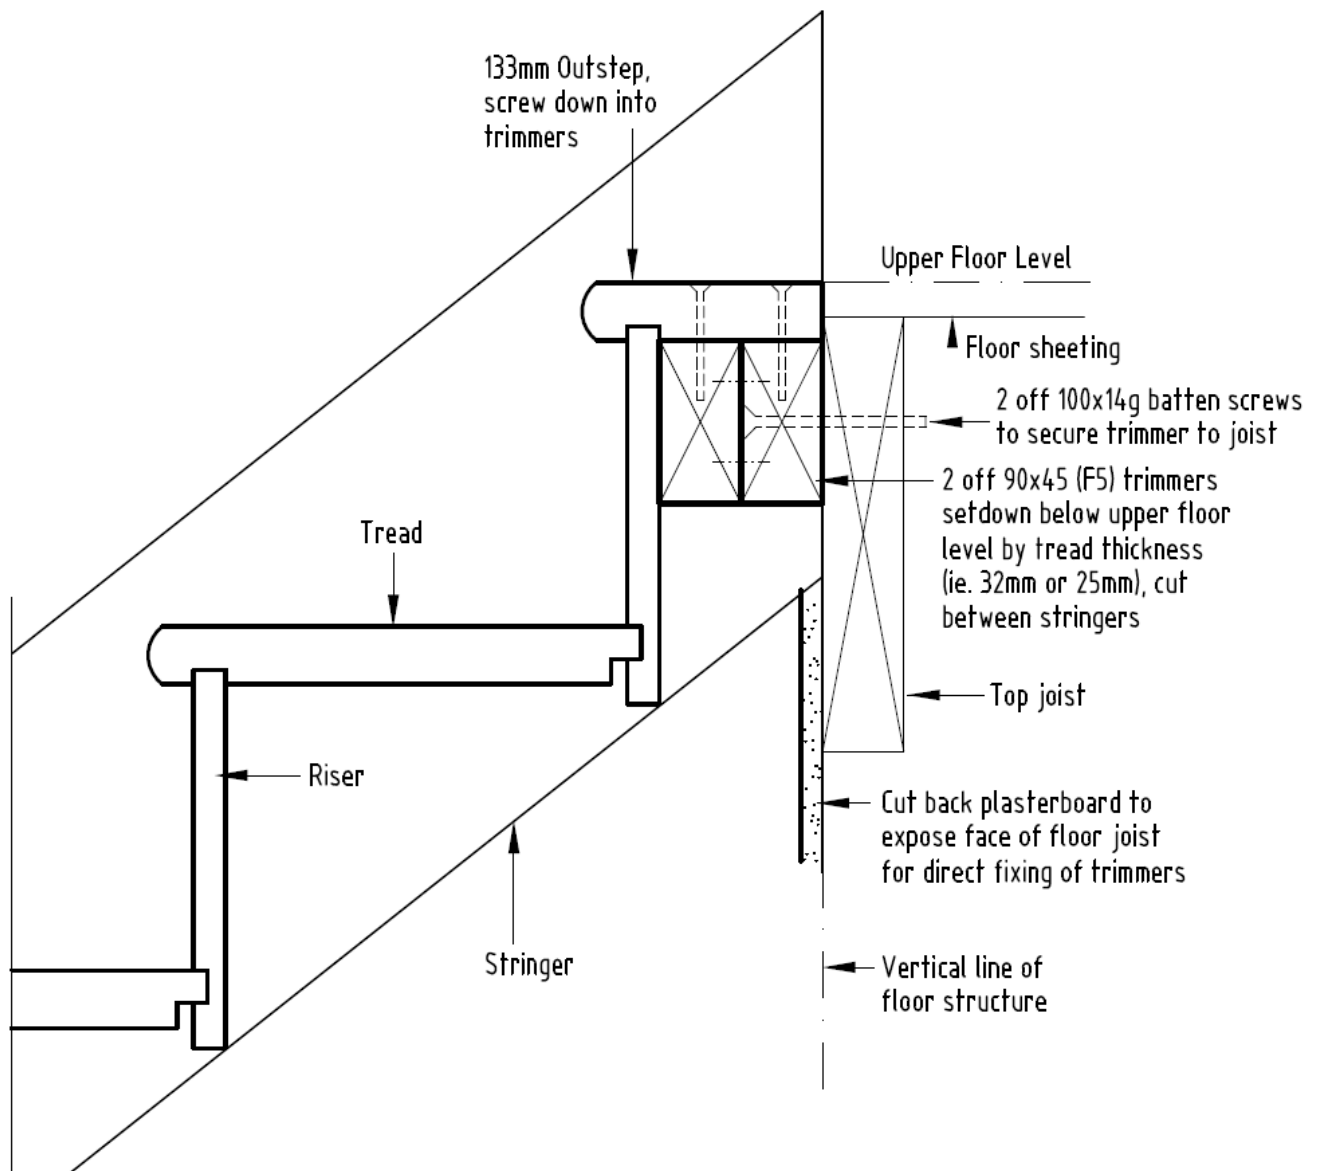

Figure 4
- 3) Once the flight is in position, screw through the nosing into the trimmers (Refer Figure 4).